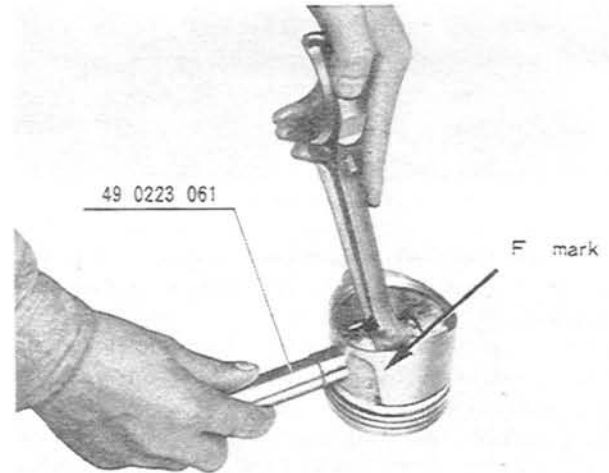

Fig. 1-43 Inserting of piston pin
**Note:** Care must be taken during the installation that relative positions of the oil hole on the connecting rod big end and the "F" mark on the piston are in accordance with Fig. 1-43.